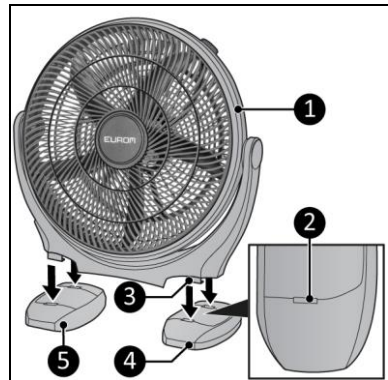

Figure 3
1. Click the left pedestal (Figure 3, pos. 4) and the right pedestal (Figure 3, pos. 5) into the slot (Figure 3, pos. 2) under the base (Figure 3, pos. 3). How to mount the pedestals is described on the pedestals.